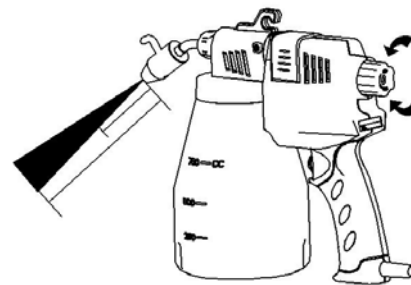

Fig. 5
4. Adjustment of spraying force: The spray force is determined by rotation of the knob on the rear of the spray gun. As Fig.5 shows, turn the knob clockwise to increase spraying force so the liquid sprays out faster and stronger. Turn the knob counterclockwise to decrease the spraying force so the liquid sprays out slower and weaker. This adjustment determines the working distance of the